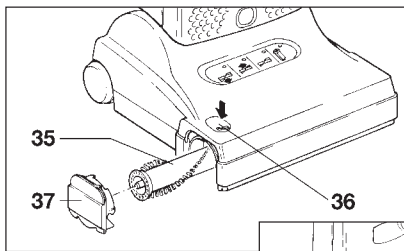

Figure 10 (X4)
## Changing the Brush Roller(s) - Figure 10 (X4), Figure 10a (X5)
The sealing strip (39) is located just behind the brush roller opening. The sealing strip seals the power head to hard floors to prevent kick-back of debris while vacuuming. To replace a worn sealing strip, push the release button, remove the side plate (36 and 37 in figure 10 & 10a) and slide old strip out. Insert the new strip into the slot and slide into place.